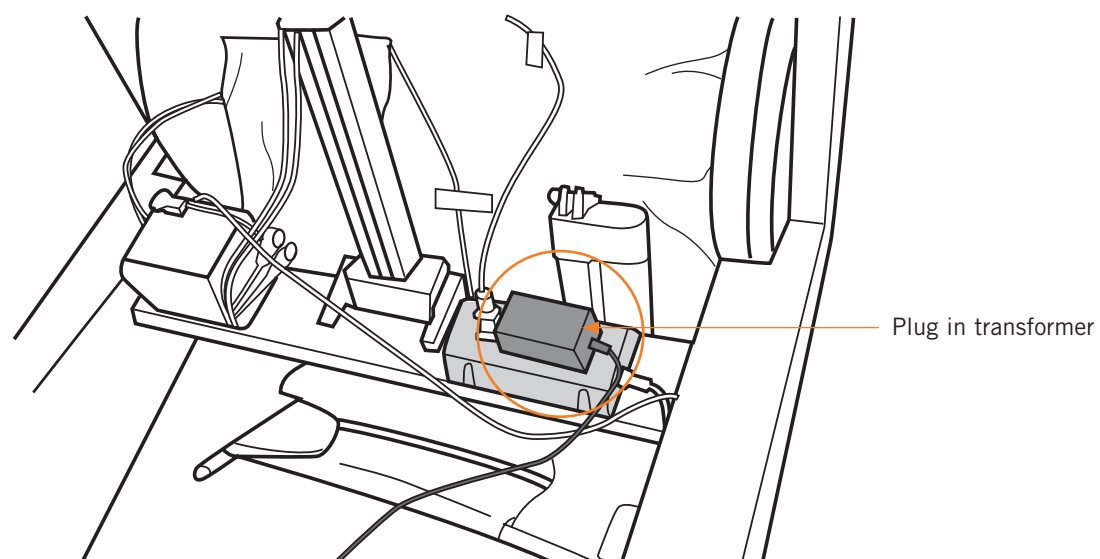

Fig.13
6. Plug the transformer into the right-hand power hub receptacle (Fig.13).